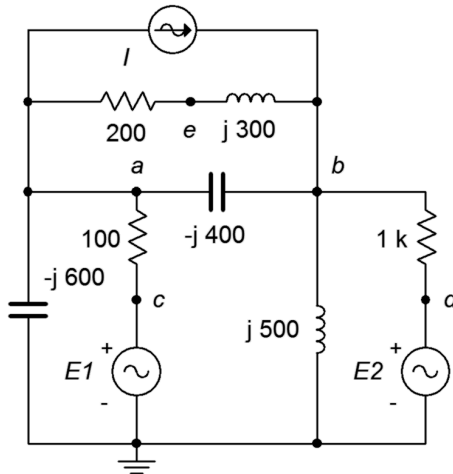

Figure 6.28
62. Given the circuit in Figure 6.28, write the node equations. $E1 = 50\angle 0^\circ$, $E2 = 35\angle 120^\circ$, $I = 500\text{E-}3\angle 90^\circ$.
63. Given the circuit in Figure 6.28, use either mesh or nodal analysis to determine v_{ed} . $E1 = 9\angle 0^\circ$, $E2 = 12\angle 0^\circ$, $I = 50\text{E-}3\angle 0^\circ$.